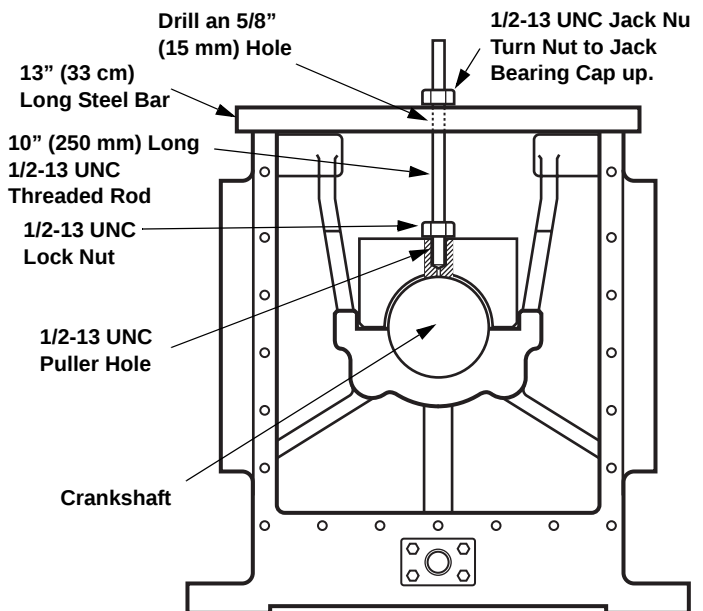

FIGURE 5-13 BEARING CAP PULLER
3. Remove the cap screws from main (journal) bearing cap #1. Pull the cap straight up to prevent damage to the dowel fit. If the cap is tight, use a Bearing Cap Puller as illustrated in Figure 5-13 on Page 5-17.